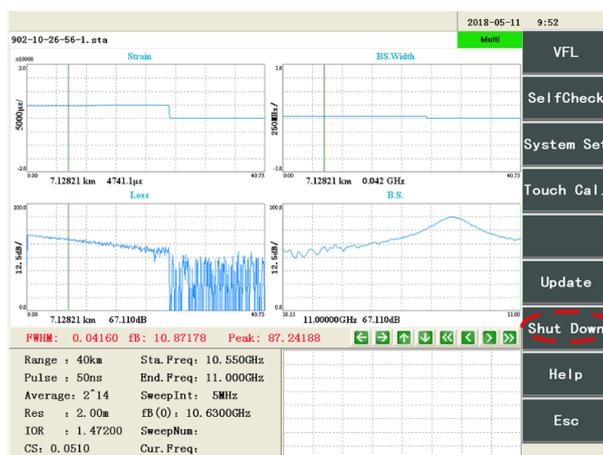

Figure 8-8 Position of [Shutdown] button
Step 2: Click the [Shutdown] button in the system sub-menu, as shown in Figure 8-8.